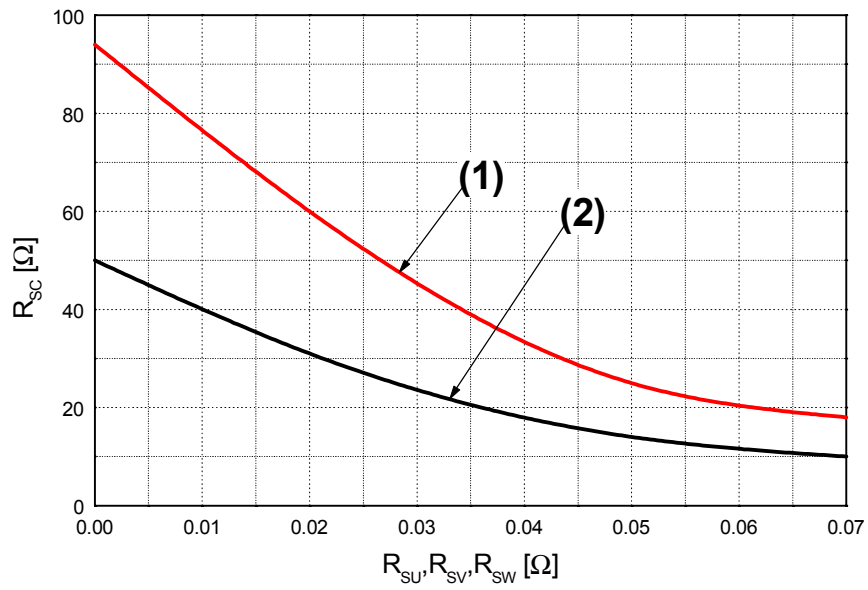

Fig. 6. R_{sc} Variation by change of Shunt Resistors (R_{su}, R_{sv}, R_{sw}) for Short-Circuit Protection
- Short-circuit current protection is functioning only at the low-sides. It would be recommended that the value of the external sensing resistor (R_{SC}) should be selected around 50 Ω in order to make the SC trip-level of about 30A at the shunt resistors (R_{SU}, R_{SV}, R_{SW}) of 0Ω. For the detailed information about the relationship between the external sensing resistor (R_{SC}) and the shunt resistors (R_{SU}, R_{SV}, R_{SW}), please see Fig. 6.